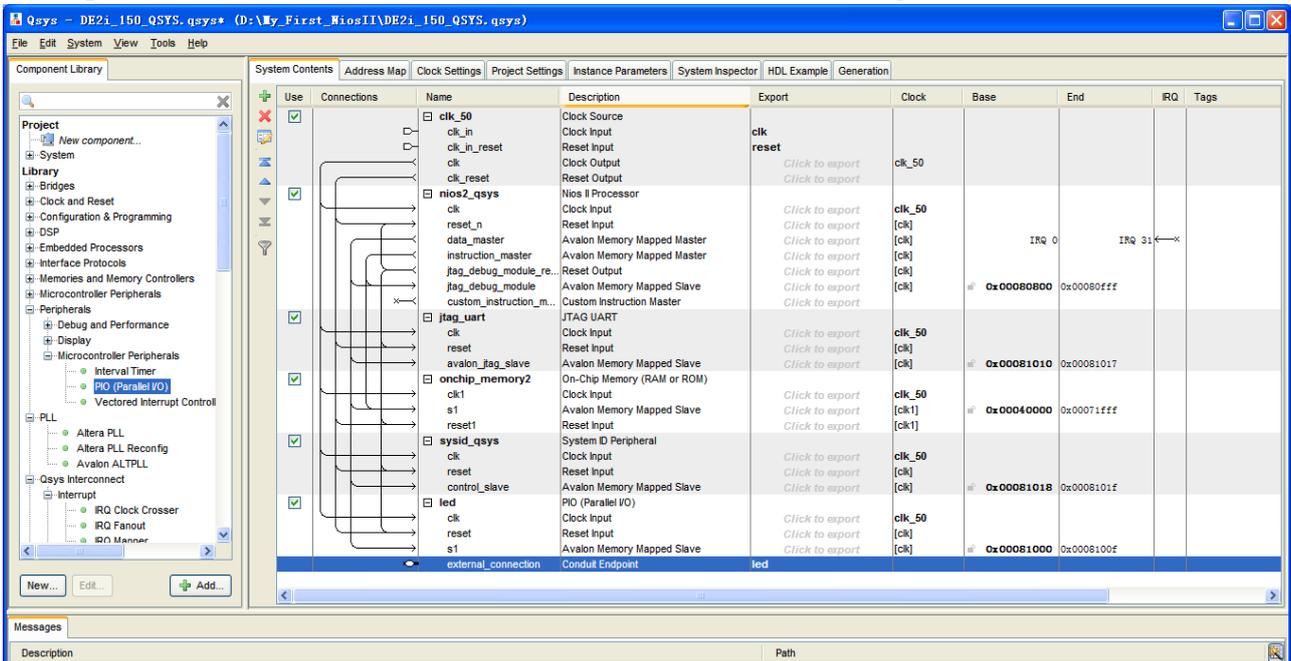

Figure 1-42 Export external_connection
27. Export **external_connection** and Rename it to **led** as shown in Figure 1-42.